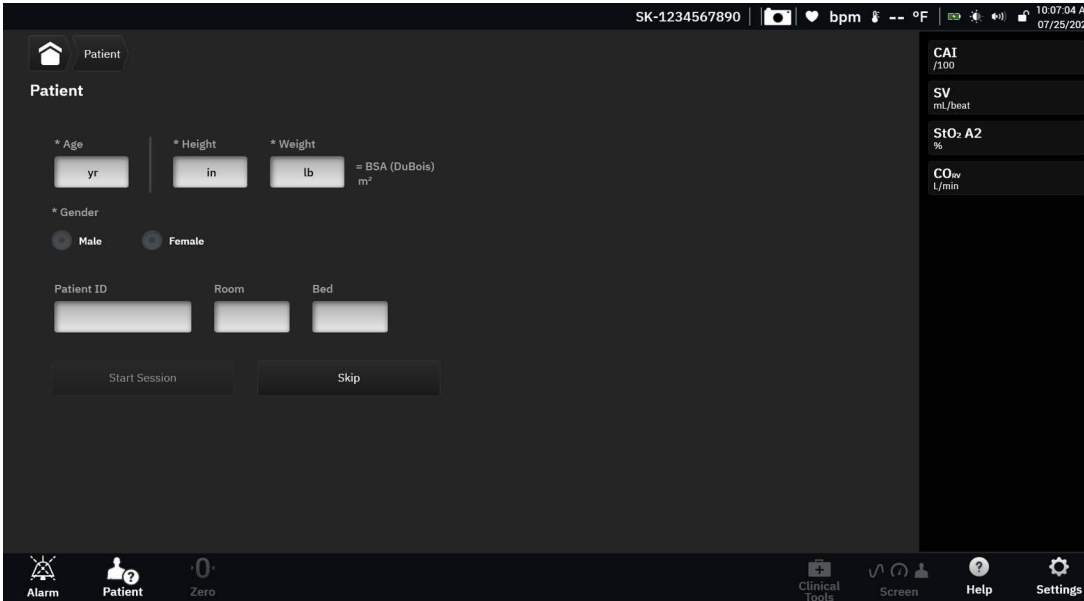

Figure 5-3 New Patient Data screen
- 2 The new patient data screen appears. See figure 5-3.